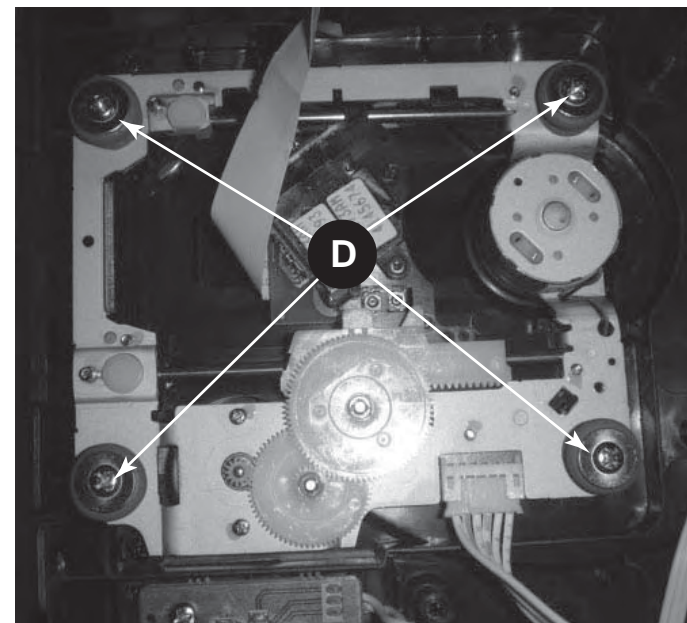

Figure 4
- 4) Loosen 4 screws "D" to take out DVD module as figure 4.